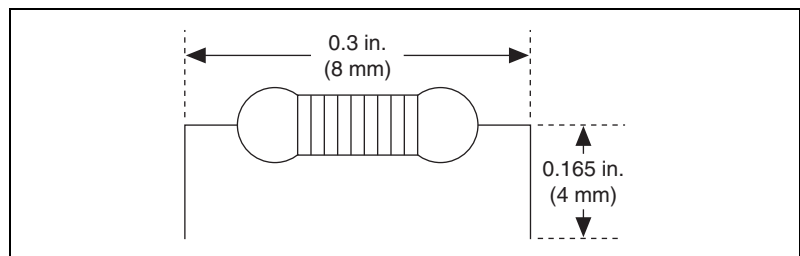

Figure 4-9. Preparing Lead Wires of Replacement Resistors
2. Cut and bend the lead wires of the resistors you want to install. Refer to Figure 4-9.